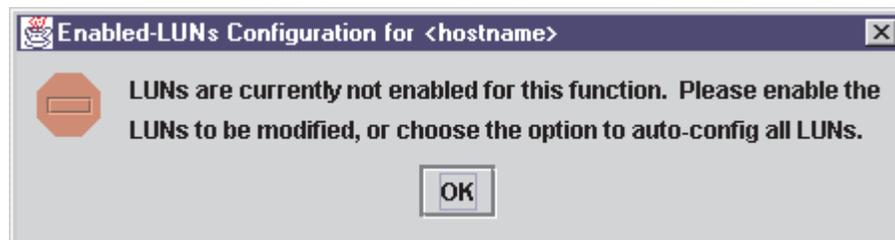

Figure 86. Enabled LUNs Only Warning Dialog Window
- Click **Enabled LUNs Only** to configure only enabled LUNs for load balancing across the paths within this device. When you click this option for a device with no enabled LUNs, the message shown in Figure 86 is displayed. Click **OK**.